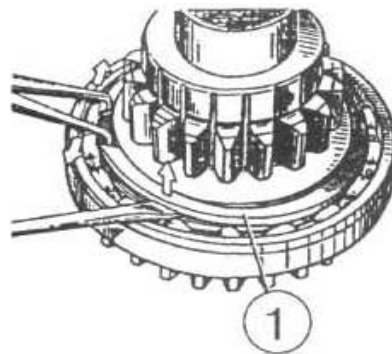

Figure 4.49
g) remove locking ring 1 from the shaft (Figure 4.49);